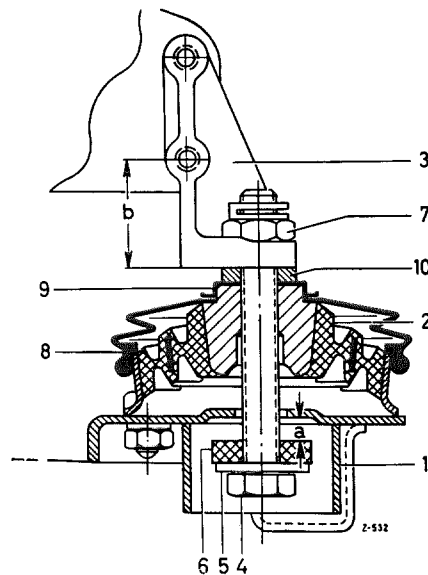

Fig. 24-1/5
The 1st version engine supports had a lower fixing eye (6 mm high) and the rubber mountings were attached by means of hexagon socket screws M 12 × 30 DIN 912-8 G. In the case of 2nd version engine supports the height of the fixing eye was increased to 22.5 mm and hexagon screws with welded-on washers were used as fixing screws, the washer serving as a limit stop (Fig. 24-1/5). However, if longer engine supports with high eyes (22.5 mm) are installed **subsequently**, hexagon socket screws M 12 × 40 DIN 912-8 G must be used, since the sub-frames were not provided with the necessary recess for the hexagon screw (4) before the limit stop mentioned above was introduced (see Fig. 24-1/5).